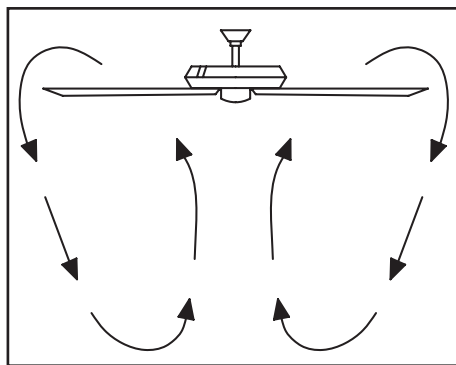

Figure 10
**Cool weather** - (Reverse) An upward airflow moves warm air off the ceiling (Figure 10). This allows you to set your heating unit on a lower setting without affecting your comfort.